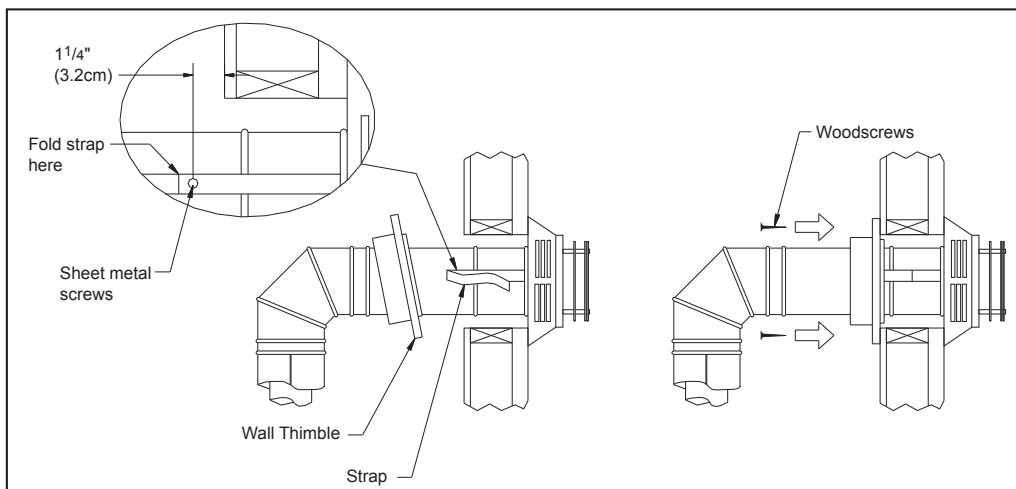

Figure 26: Installing Decorative Wall Thimble.
6. Slide the appliance and vent assembly towards the wall, carefully inserting the vent pipe into the cap assembly. It is important that the vent pipe extend into the vent cap a sufficient distance with a minimum of 1¼" (3.2 cm) overlap. Secure the connection between the vent cap pipe and the vent cap by attaching the two sheet metal straps extending from the vent cap assembly into the outer wall of the vent pipe. Use the two sheet metal screws provided to connect the straps to the vent pipe. Bend any remaining portion of the sheet metal straps back towards the vent cap, so the decorative wall thimble will conceal it (see left image in Figure 26).
7. Slide the decorative wall thimble up to the wall surface and attach with the screws provided. Apply decorative brass or chrome trim if desired (see right image in Figure 26).